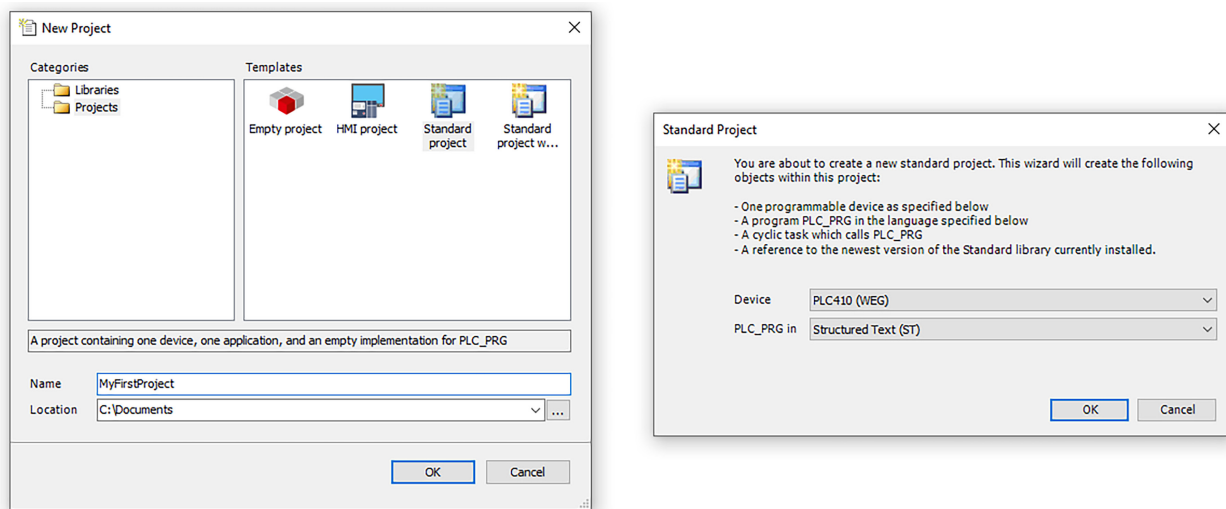

Figure 14.1: Creating a new project
- 4) Open CODESYS and create a new project in **File > New Project**. Select **Standard Project**, define the name, the location where it will be saved and press **OK**. In the new window, select the Device **PLC410 (WEG)** and the desired programming language, as shown in Figure 14.1 on page 14-2.